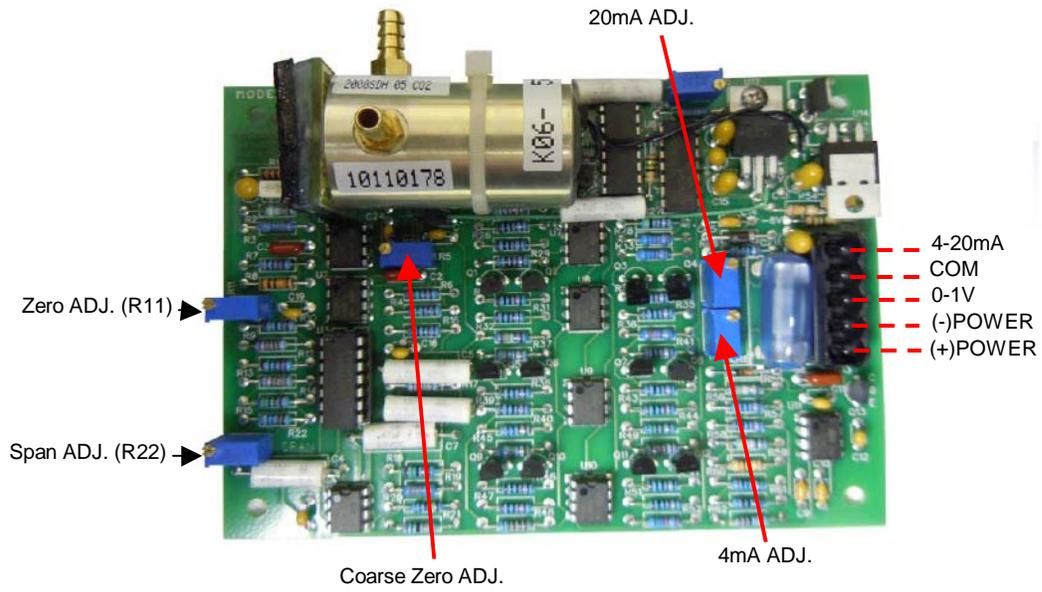

FIGURE 2
**C. Circuit Board (See Figure 2)**